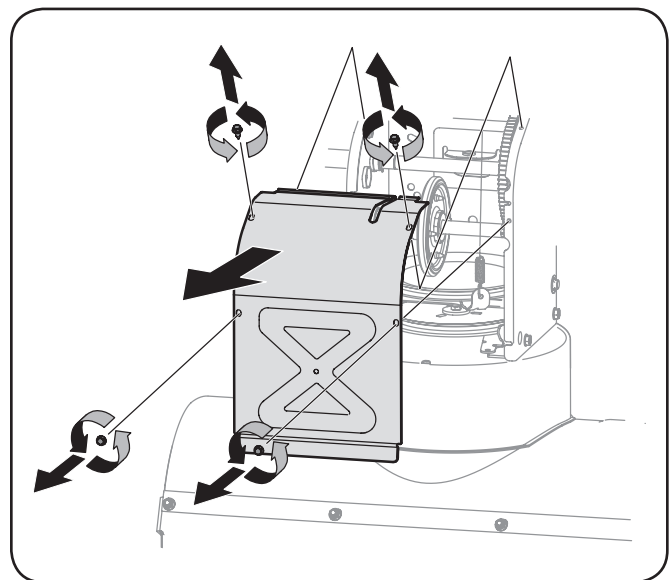

Figure 6-2
3. Remove the frame cover from the underside of the snow thrower by removing the self-tapping screws which secure it. See Figure 6-2.